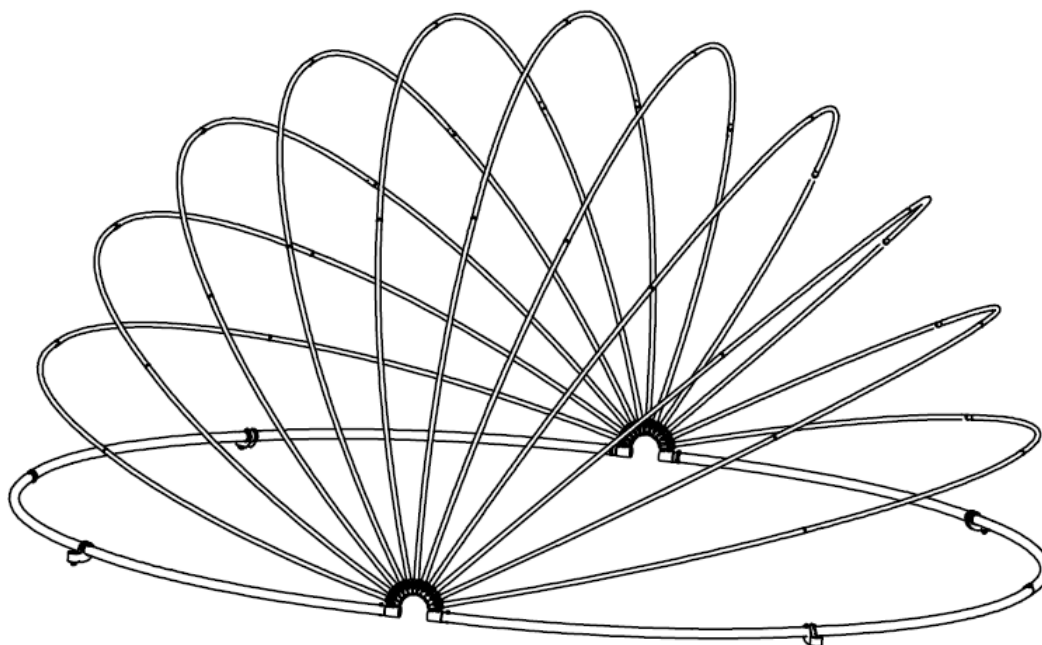

Fig. 8.
Place the remaining arches ( $\varnothing$  20 mm) (B) and couplings (K) inside of the roofing to be made before unfolding the semicircle as described in Step 3. Then the assembly should be carried out from inside. Reeve the arches through the slings sewn on in the canvas from inside. Assemble each supporting arch from four parts using couplings (J) (Fig. 8) and, finally, stick its end into the joint with the traversing wheel (Fig. 9). In the assembly of these arches proceed from the load-bearing structure towards the canvas lower edge. After all the supporting arches (B) have been installed, the circular roofing assembly is completed (Fig. 8).